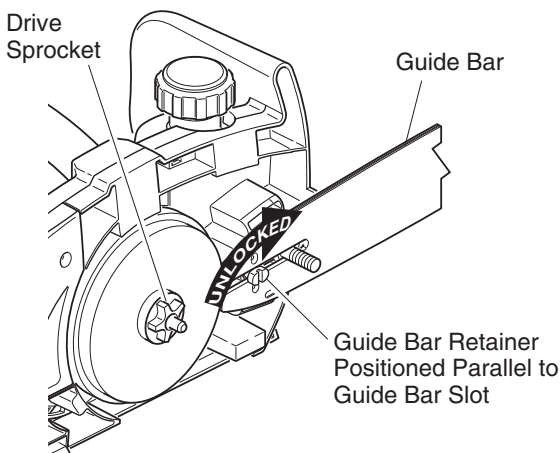

Figure 2 - Unlocking Guide Bar Retainer
6. Rotate guide bar retainer so that it is positioned parallel to guide bar slot (see Figure 2).
1. Rotate guide bar retainer so that it is positioned parallel to guide bar slot (see Figure 2).
2. Install guide bar onto saw body. Assemble center slot of guide bar onto guide bar bolt and guide bar retainer. **Note:** Make sure the head of the guide bar retainer slides through the guide bar slot as shown in Figure 2.